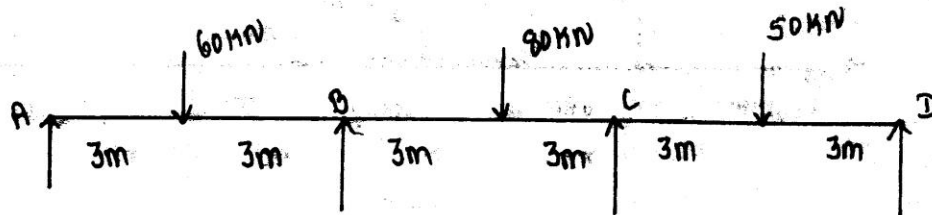

Figure-1
1. Analyse the continuous beam shown in figure-1 by slope deflection method.. Take  $E = 2 \times 10^5 \text{ N/mm}^2$  and  $I = 3 \times 10^8 \text{ N/mm}^4$ . (15)